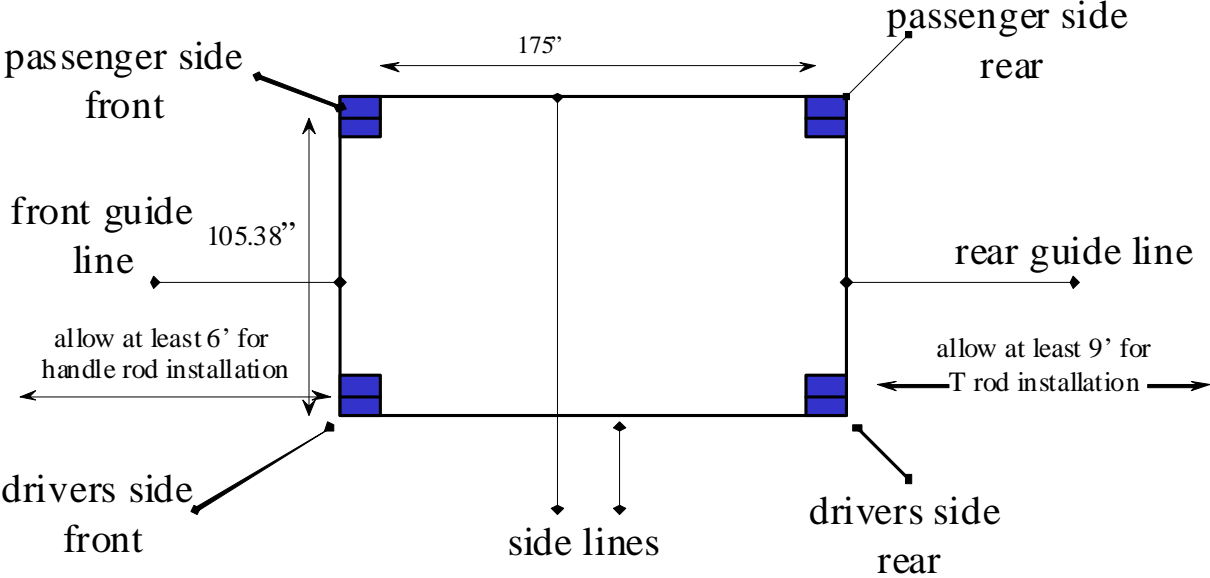

figure 1
2. Take column with the power unit bracket and stand it up in the *drivers side front* corner (see fig.1) with the opening facing in and the lock blocks located on the right side of the column opening (as you stand facing the opening) along the front guide line.